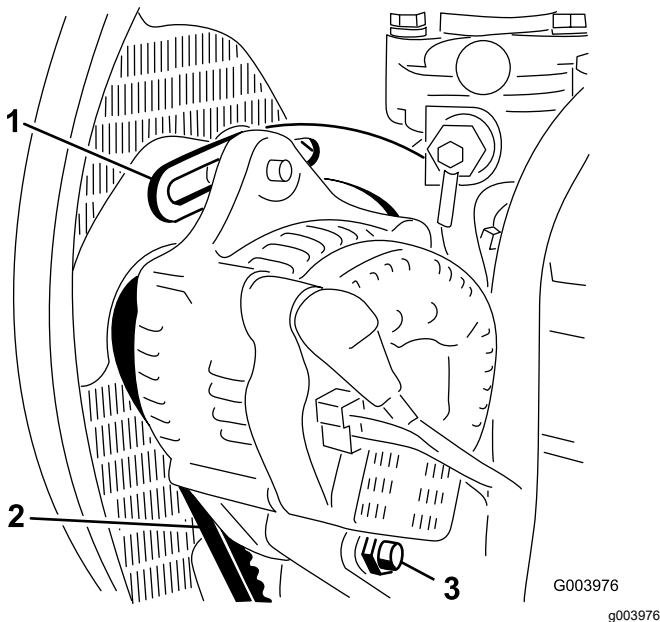

Figure 110
3. Check the tension of the alternator belt by pressing it (Figure 110) midway between the alternator and the crankshaft pulleys with 10 kg (22 lb) of force.
4. Loosen the bolt securing the alternator to the brace, and the alternator pivot bolt. (Figure 110)